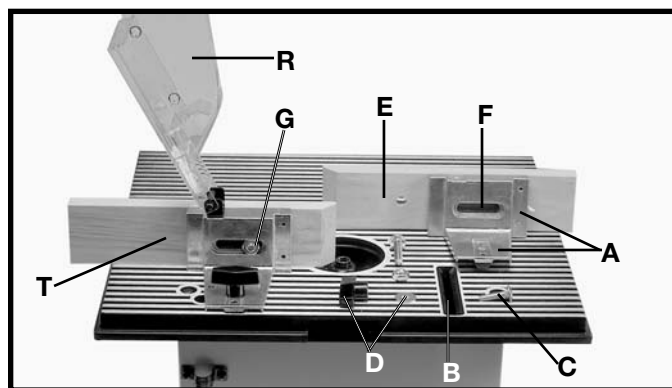

Fig. 7
1. **NOTE:** The fence body with the see-thru cutter guard (R) Fig. 7, assembled to it, is to be assembled to the right hand side of the table. Place keyed bottom portion of the left hand fence body (A) Fig. 7, in table slot (B). Insert a 5/16-18x1-1/4" carriage head bolt (C) up through bottom of table slot (B), place a 5/16" flat washer on bolt and secure with lock handle.
2. Place back of wooden fence (E) Fig. 7, against front of fence body (A), as shown. Line up hole in wooden fence (E) with slot (F) in fence body (A) and fasten wooden fence (E) to fence body by inserting a 3/8-16x1-1/2" screw through hole in wooden fence and hole in fence body thread a 3/8-16 hex nut (G) onto the 3/8-16x1-1/2" screw.
3. Assemble the right hand fence assembly (T) Fig. 7, to the table in the same manner.